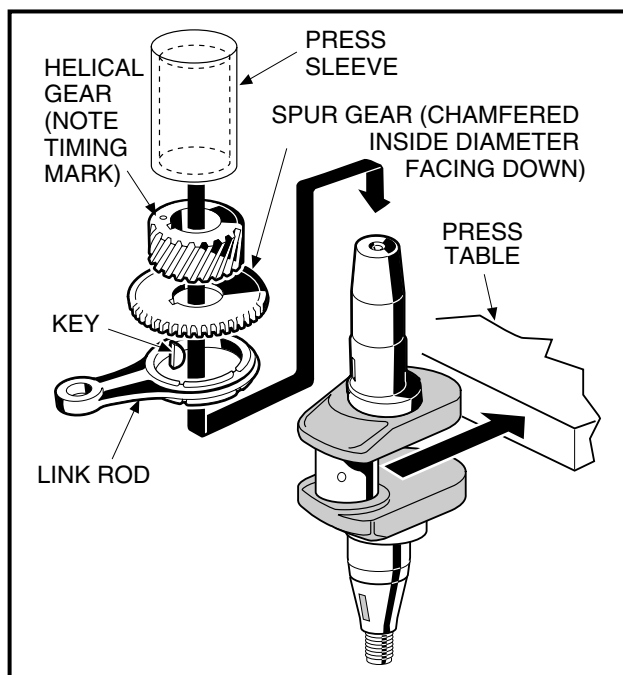
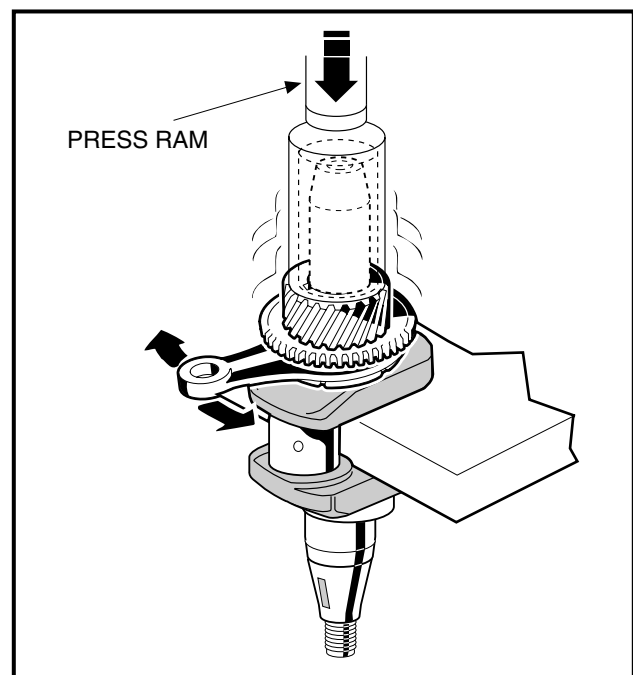

Figure 2-89 Crankshaft Installation
Figure 2-90 Press On Spur Gear and Helical Gear
3. If the link rod was removed from the PTO side of the crankshaft, support the crankweb as shown, slide the link rod onto the crankshaft, and install the key. Press the spur gear and helical gear onto the crankshaft (**Figure 2-89, Page 2-39 and Figure 2-90, Page 2-39**). **See following CAUTION and NOTE.**
NOTE: Make sure the chamfered inside diameters of the spur gear and helical gear are oriented downward on the crankshaft as shown (**Figure 2-89, Page 2-39**).